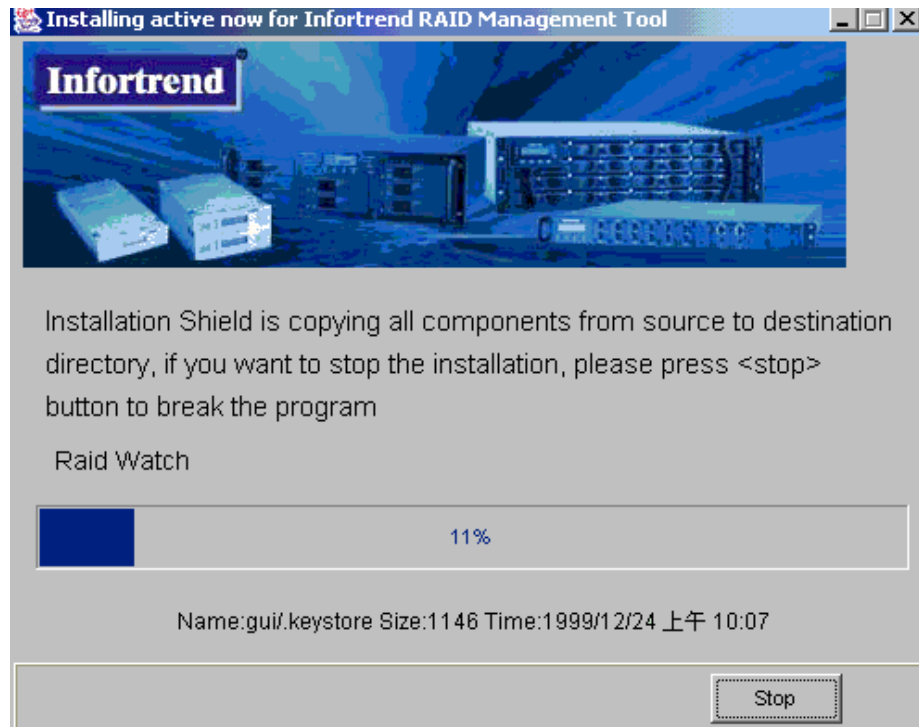

Figure 2-11: Installing Active
- Step 8.** If the “*Next*” button from *Figure 2-11* was selected, the Install Active window shown in *Figure 2-12* will appear. If you wish to stop the installation procedure, then click the “Stop” button. If you wish to continue installing the Applet components, allow the installation shield to continue through the rest of the procedure.